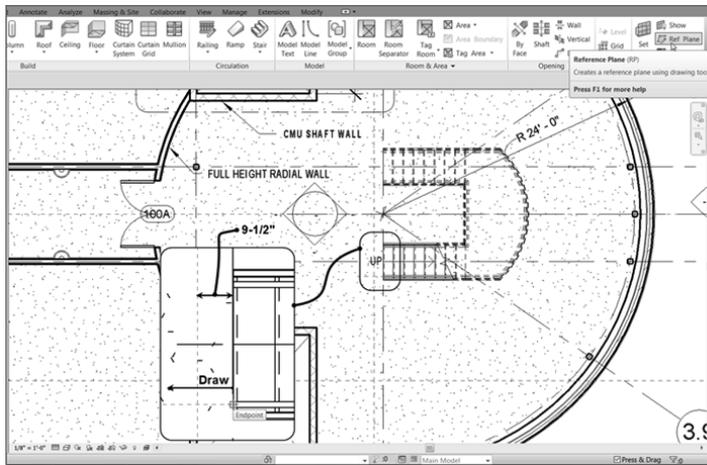

FIGURE 10.14 : Add two reference planes as indicated here.
6. Offset a reference plane 9 1/2" (237 mm) to the left of the bottom riser (see Figure 10.14).
7. Type 0' in the offset field and draw another reference plane from the center line of the bottom railing to the left about 2'-0" (600 mm) (see Figure 10.14).